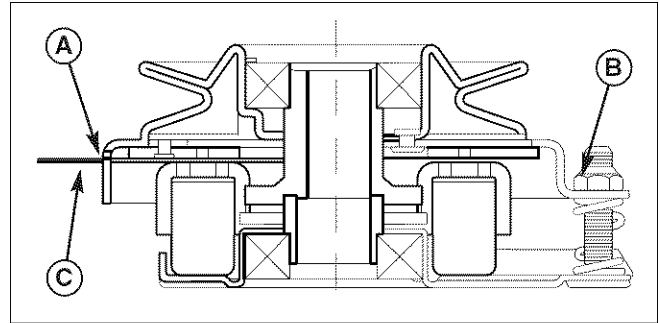

Figure 30. Adjust PTO Clutch
3. Insert a .016"-.018" (0,40-0,45mm) feeler gauge (C) through each window, positioning the gauge between the rotor face and the armature face as shown in Figure 30.
5. Use the rear leveling links (B, Figure 30) to adjust the side-to-side leveling of the deck. Repeat step 4 if necessary.